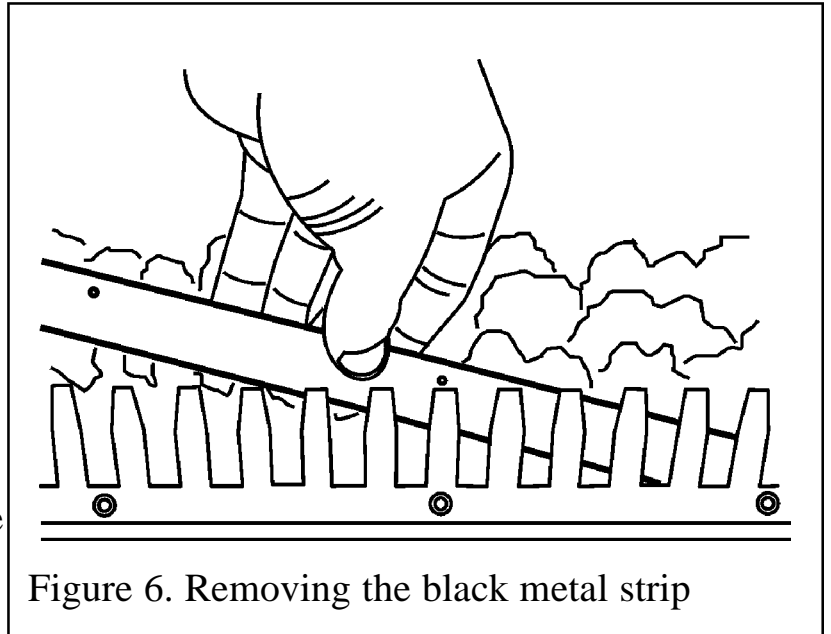

Figure 6. Removing the black metal strip
- Remove the three screws on the front of the fuel basket. Behind the basket is a black metal strip which holds the fuel effect in place. Remove this by lifting up (See figure 6).